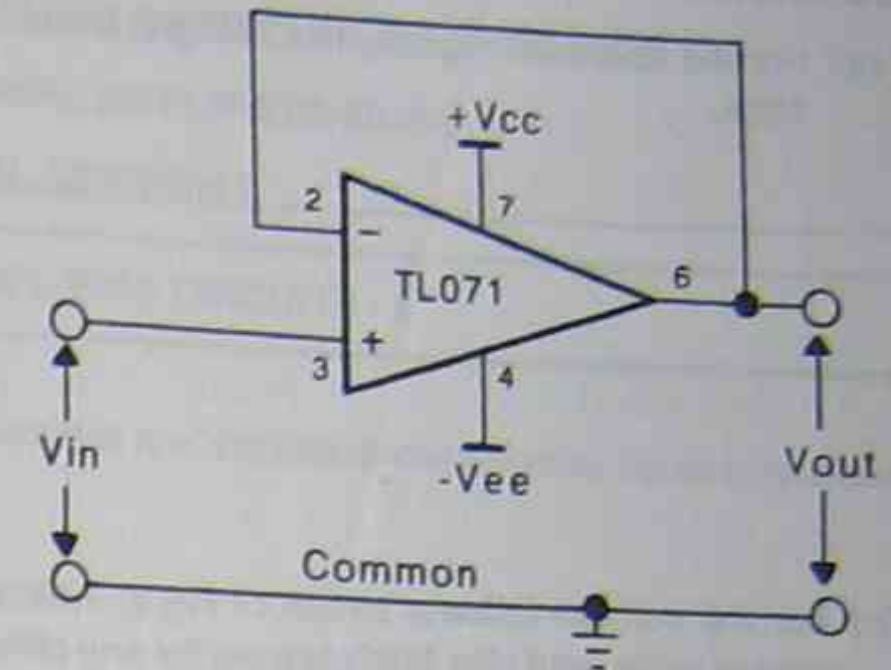

Fig.3: Voltage follower
- Connect the circuit of Fig.3.
(b) For the voltage follower circuit of Fig.3, indicate if the measured gain equalled the theoretical gain of unity, and give brief reasons for any differences.